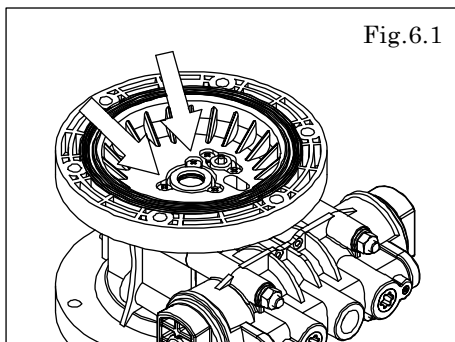

Fig.6.1
- Remove the 10 retainer screws from the body. [Fig.6.1]